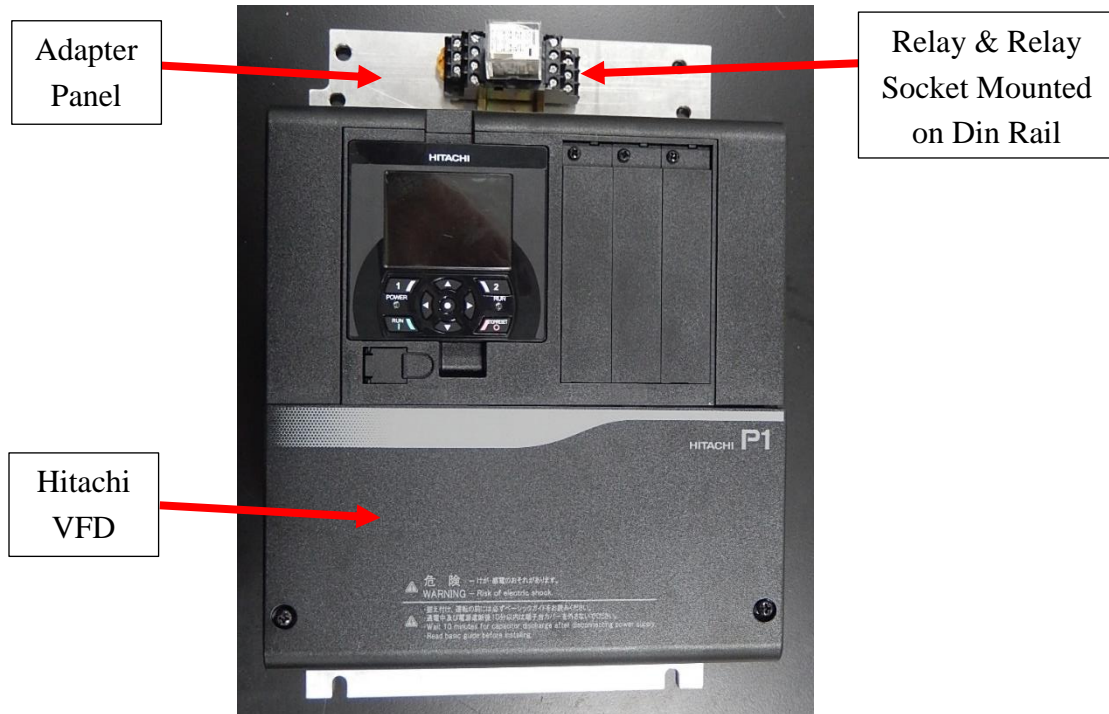

Figure 7: VFD, Relay & Adapter Plate
6.3.2 **Mount** the 24VDC Relay & Socket (R1/R2), Part Numbers 44-0004-005 & 44-0004-006, using the supplied Din Rail (340-140-10108), 10-32 X 3/8" Screw (92949A263), Flat Washer (1300-700770), & Din Rail End Brackets (ENT-140-10133) to the Adapter Panel (472-130-10115). See *Figure 7* below for completed assembly of the Hitachi VFD, Din Rail, and Relay to the Adapter Panel.
Relay pictured in *Figure 7* may differ from that supplied in the kit. Din Rail End Brackets not pictured.